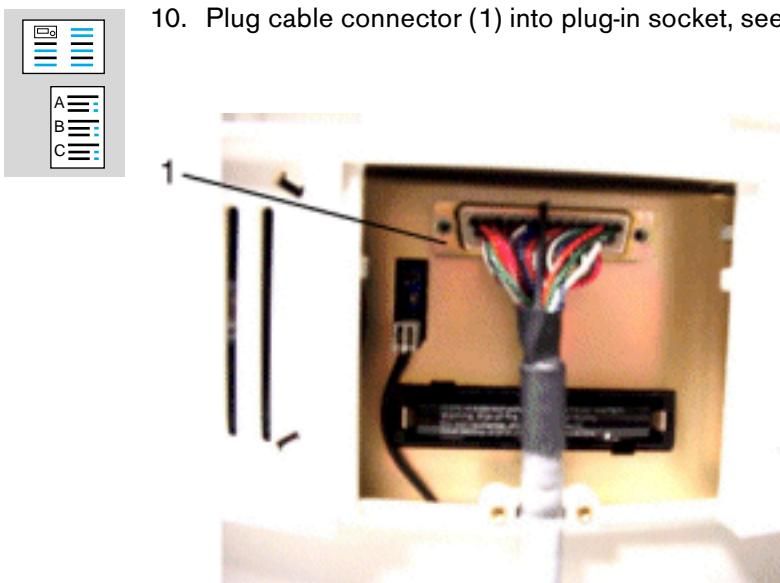

Fig. 97 Rear view of the display housing
10. Plug cable connector (1) into plug-in socket, see Fig. 97.